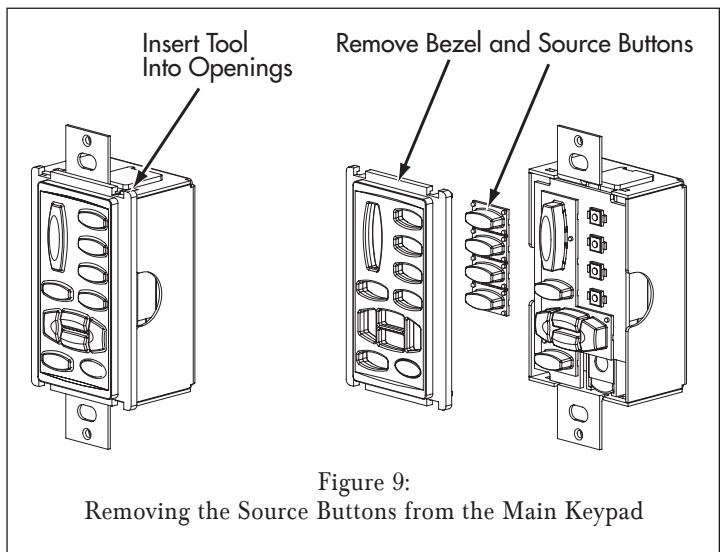

Figure 9:
2. Use a screwdriver or similar tool to release the keypad bezel tabs (see Figure 9).
3. Remove the keypad bezel and SOURCE buttons from the keypad as shown in Figure 9.